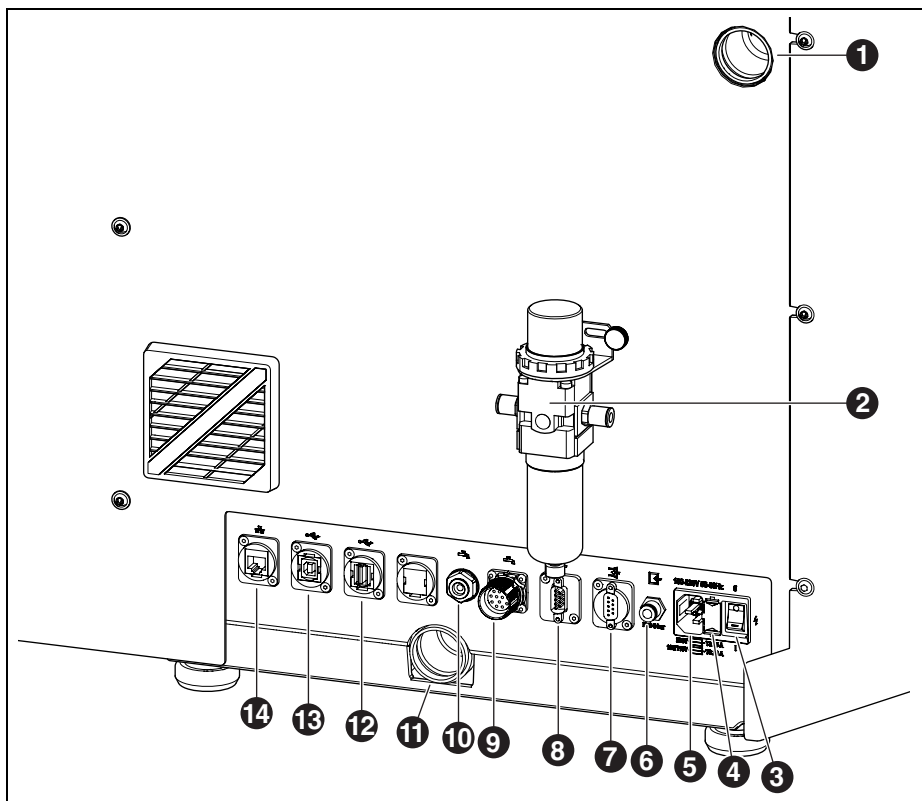

Fig. 3 Ceramill Matron/Ceramill Matron Core rear
- ▷ Pull out the drawer ([4] in Fig. 3 on page 46) next to the mains plug.